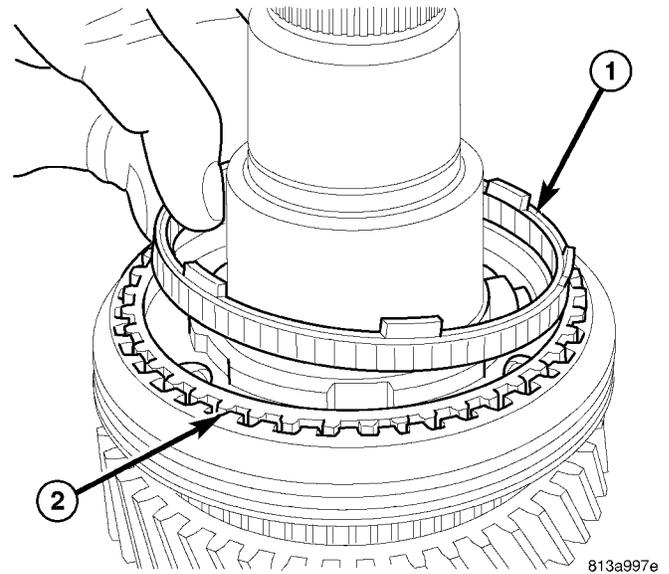

Fig. 68 FIRST GEAR FRICTION RING
(12) Install first gear outer friction ring (1) (Fig. 68) into synchronizer hub (2).